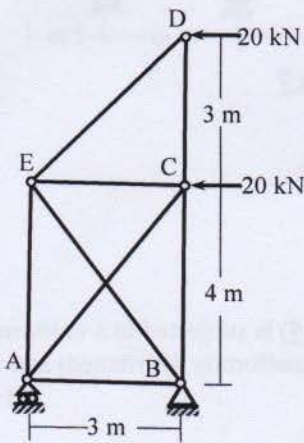

Fig.3
3. Using Force Method determine the bar forces of the truss shown in **Fig.3** [Given: $EA=$ Constant]. [12]